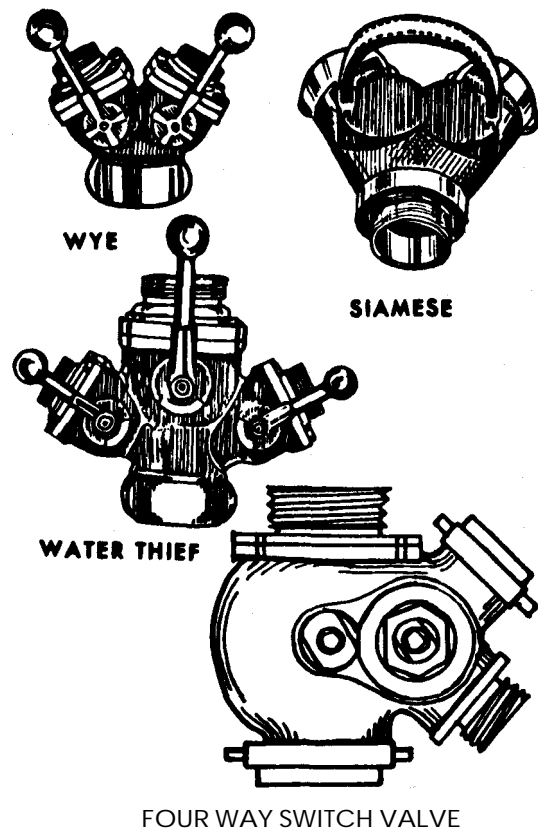

Figure 2-33. Combining and dividing devices.
a. Wyes. A wye (fig. 2-33) divides a hose line into two lines of the same or smaller size. If it has controlling valves (gate or ball valve), it is known as a *gated wye*. Most controlling valve wyes today are manufactured with ball type valves. If the wye divides the line into smaller lines it is called a *reducing wye* or *gated reducing wye*. The gated reducing wye which divides a 2½-inch (6.35-centimeter) hose line into two 1½-inch (3.8-centimeter) lines is very common.
b. Siamese. The **siamese** is a Y-shaped connection (fig. 2-33) which combines two or more hose lines into a single line of the same or larger size. It is used primarily to join two **2½-inch (6.35-centimeter)** intake lines into a single **2½-inch (6.35-centimeter)** outlet line or into other heavy stream appliances. Siamese may have swing check valves (clapper valves) to assure that water will not flow back through any of the inlets, and are then called **clapper valved siamese**. They may have gate or ball valves called **gated siamese**. A **siamese** that combines from two to four small lines into a single larger line is known as an **increasing siamese**. The gated increasing **siamese** is often carried on the large steamer inlet of a pumping engine and is also known as a **suction siamese**.
c. Water Thief. The **water thief** (fig. 2-33) has a **2½-inch (6.35-centimeter)** inlet and two gated **1½-inch (3.8-centimeter)** discharges, as well as a **2½-inch (6.35-centimeter)** discharge which may or may not have a controlling valve. It is used for taking short attack lines from a **2½-inch (6.35-centimeter)** or **B-inch (6.6-centimeter)** supply line.
d. Four-Way Switch Valve. The four-way switch valve (fig. 2-33) is used to hook up a supply line to a hydrant. It permits hooking up a pumping engine to the hydrant later, without shutting down the supply, and then increasing water pressure in the supply line. This is done by moving a single rotor or two baffles, depending on the design of the valve, so the path of the water is changed from the supply line to the engine and back through the supply line.